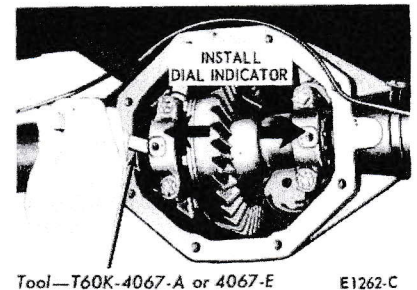

FIG. 31—Backlash and Bearing Pre-load Adjustment
15. Install the bearing cap bolts and lockwashers. As the bolts are tightened, turn the adjusting nut with the tool shown in Fig. 31.